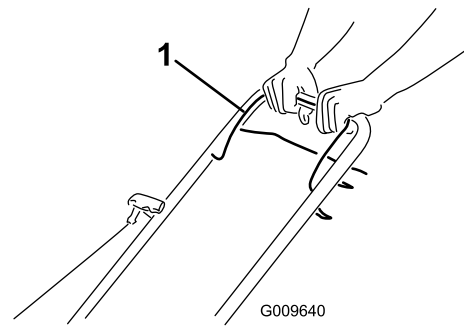

Figure 12
2. Hold the blade control bar (Figure 12) against the handle.